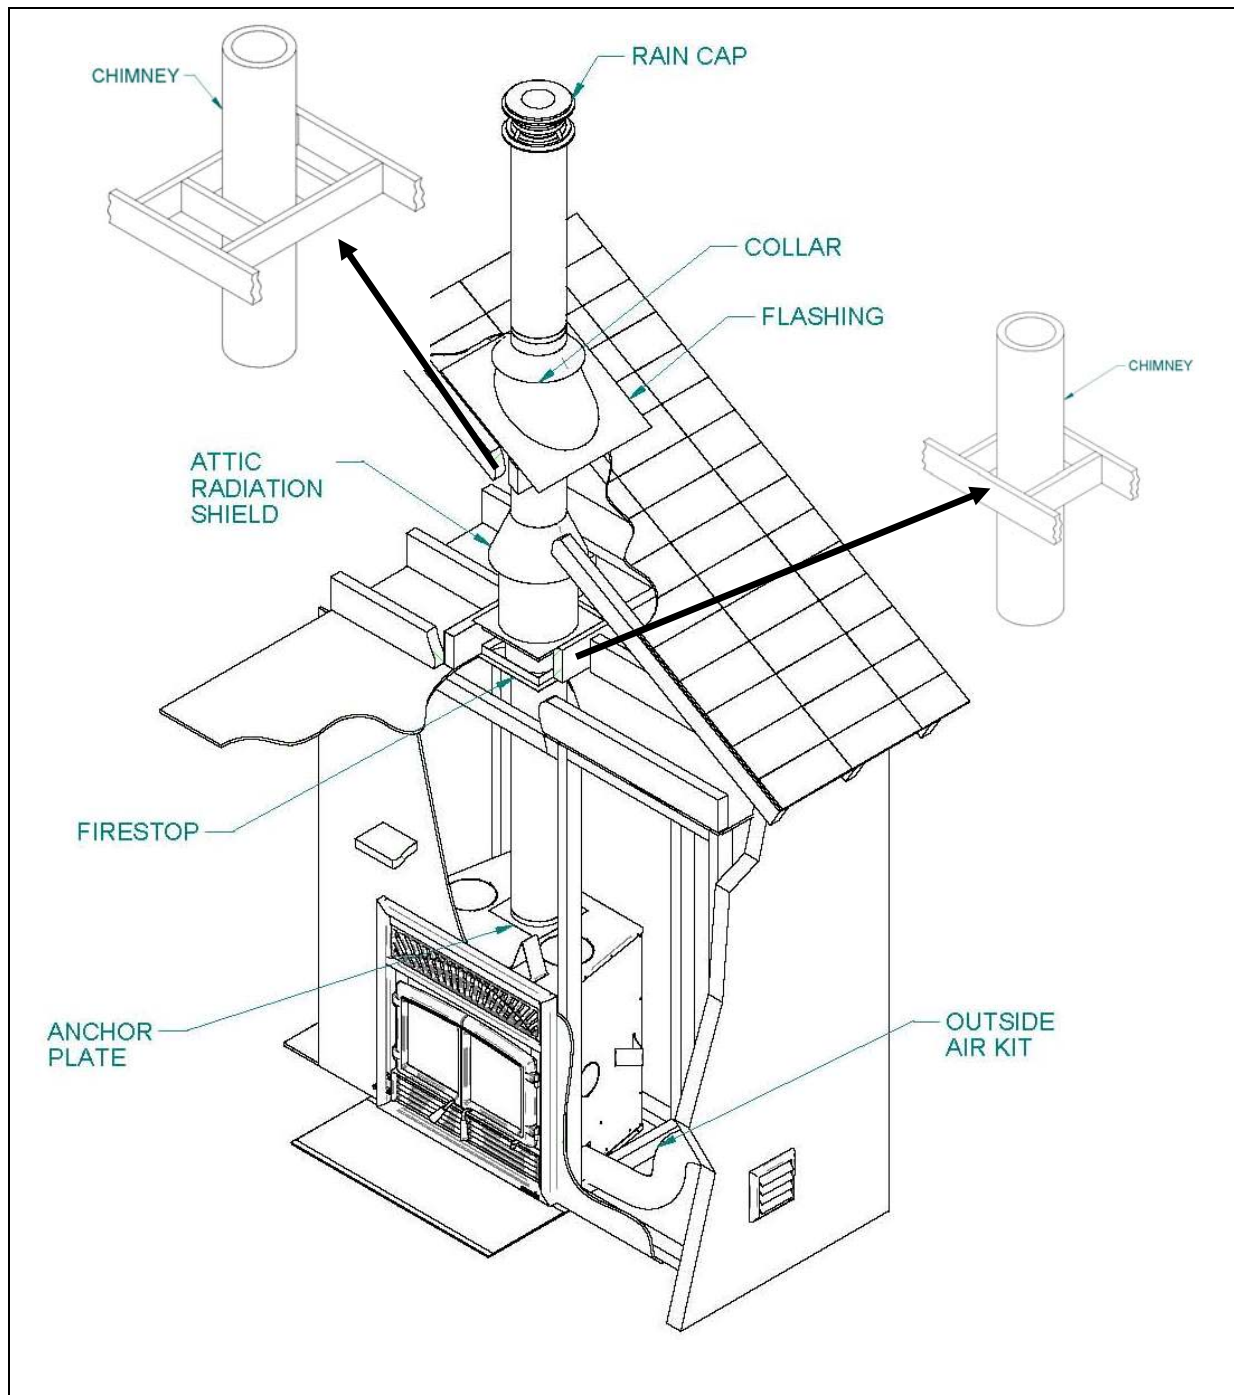

Figure 38
2. From below, install a firestop supplied by the chimney manufacturer in each ceiling/floor separation through which the chimney will pass. At the attic level, install an attic radiation shield from above (see figure 38).
3. Follow the chimney's manufacturers' instructions and place the first chimney length on the fireplace. For all chimneys, you must use an anchor plate supplied by the chimney manufacturer before installing the first chimney length (see figure 38). Continue installing chimney lengths making sure to lock each length in place.
5. Then, put the roof flashing in place and seal the joint between the roof and the flashing with roofing pitch (see figures 38). For sloping roofs, place the flashing under the upper shingles and on top of the lower shingles. Nail the flashing to the roof, using roofing nails.
5. From below, install a firestop supplied by the chimney manufacturer (see figure 38).